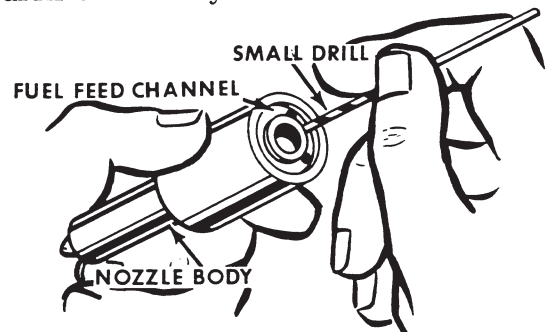

Figure I-21
3. Clean out the small feed channel with a small drill or wire, Figure I-21. These bores are rarely plugged, and insertion of a drill or wire by hand will be sufficient.